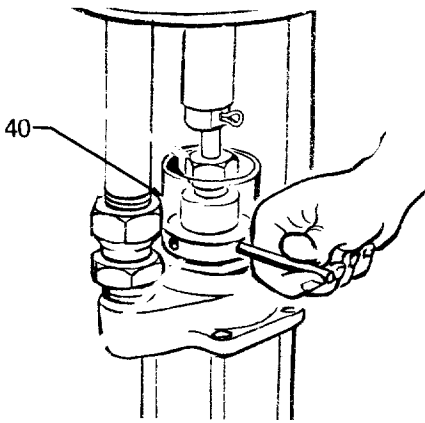

Fig 2
Keep the wet-cup/packing nut (40) filled with Graco Throat Seal Liquid (TSL) and check tightness of packing nut weekly. Packing nut should be tight enough to prevent leakage — no tighter. See Fig 2. Always shut off and relieve air pressure to pump and relieve material pressure before adjusting packing nut.